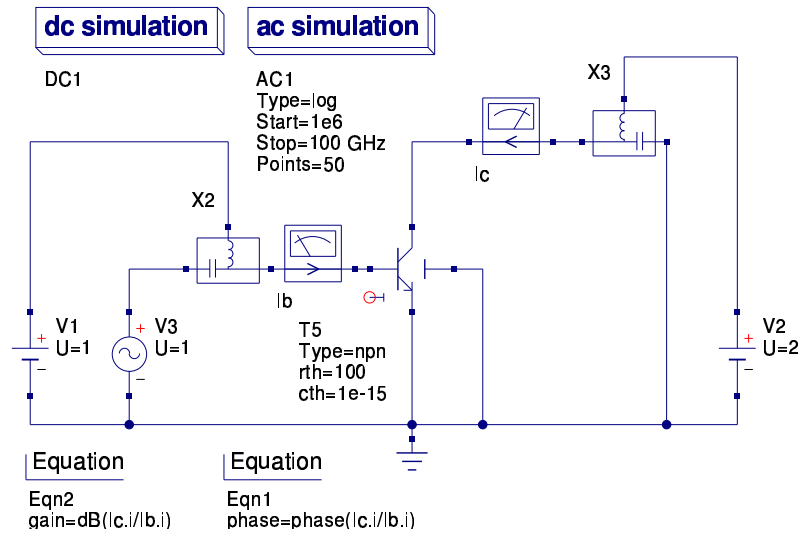

Figure 1.8: AC simulation schematic for HICUM/L2 v2.11 model
**AC simulation.** Figures 1.8 and 1.9 depict the schematic and digrams for an AC simulation in a given bias point. The current gains magnitude and phase are shown as well as the characteristics of the small signal base and collector current in the complex plane (polar plot).